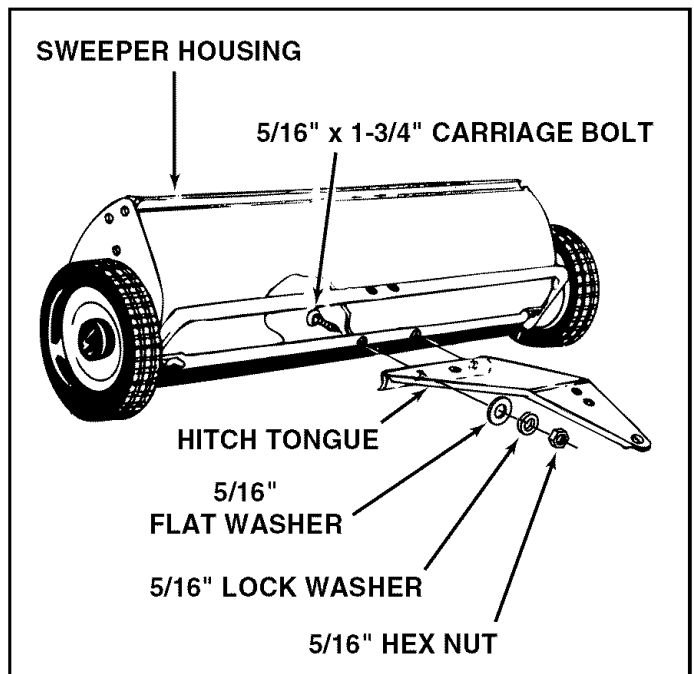

FIGURE 1
- Remove the 5/16" hex nut, 5/16" lock washers and 5/16" flat washer from the two 5/16" x 1-3/4" carriage bolts as shown in figure 1. Assemble the hitch tongue to the sweeper, reusing the same two carriage bolts, flat washers, lock washers and hex nuts. **Do not tighten at this time.**
- **Tighten** (do not overtighten) the two hex nuts used to secure the hitch tongue in figure 1, making sure the brace rod is under the brace rod clip and pulled back tight against the bolt. See figure 1,2 and 3. Now **tighten** all other bolts assembled so far.